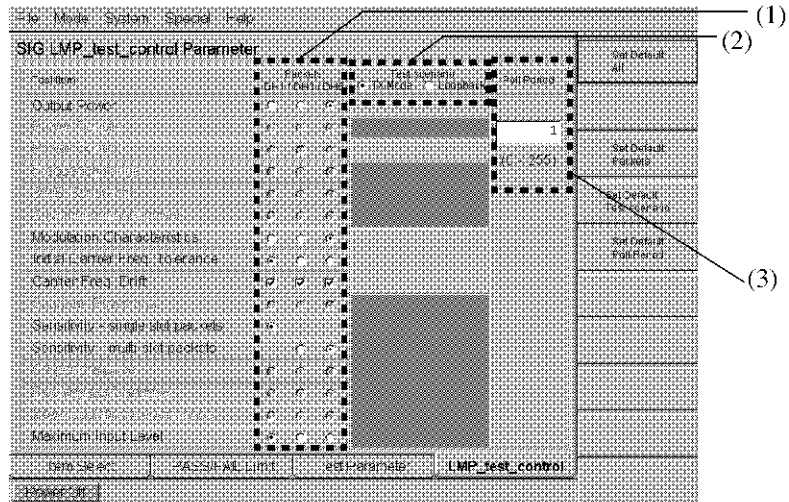

Figure 2-41 LMP_test_control Settings
Measures one of the IUT transmission packet types selected from DH1, DH3, or DH5. However, in the Carrier Frequency Drift test, one or more Packets can be selected and measured. (See (1) in Figure 2-41)
Sets the RF communication conditions during the transmitter test. (See (2) in Figure 2-41)